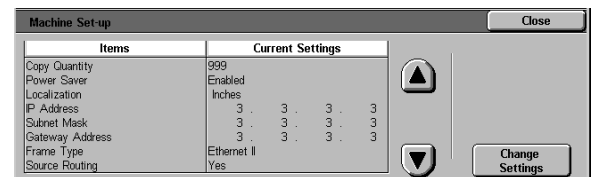

Figure 38: Machine Setup screen
- 1 On the Tools screen, touch the **Machine Set-up** button to display the Machine Set-up screen, as illustrated in Figure 38.